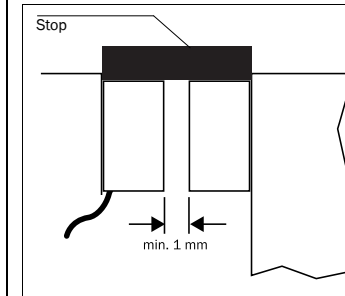

Fig.6: Mounting example for safety switch and actuator
- Fit safety switch and actuating element such that they do not touch each other: Minimum distance between the front faces with the guard closed 1 mm (Fig.6).
- Fit an additional stop for moving parts of the guard (Fig.6).